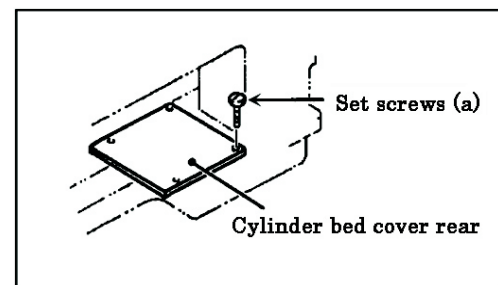

Fig.3
2. Remove the 4 set screws (a), and remove the rear cylinder bed cover.(Fig. 3)